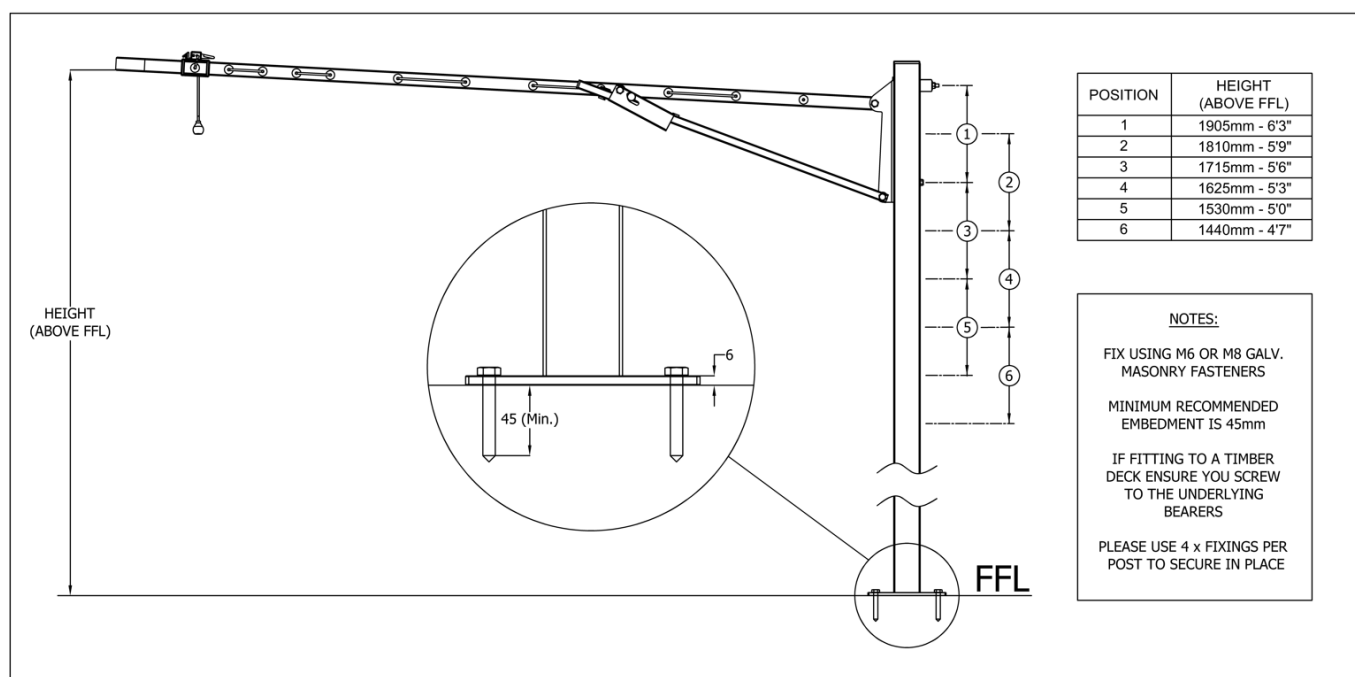

Fig. 9 Installation of Plated Post GMK.
- Install the GMK as per the below image (Fig 9) at 3,300mm centres.